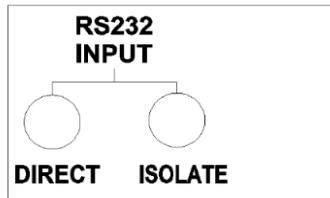

Fig. 3
- 1) Prepare the interface cable (Double earphone cable, UPCB-03 standard accessory). Connect the UPCB-03 cable to the RS232 meter and the PRS-2321 (refer Fig. 3).